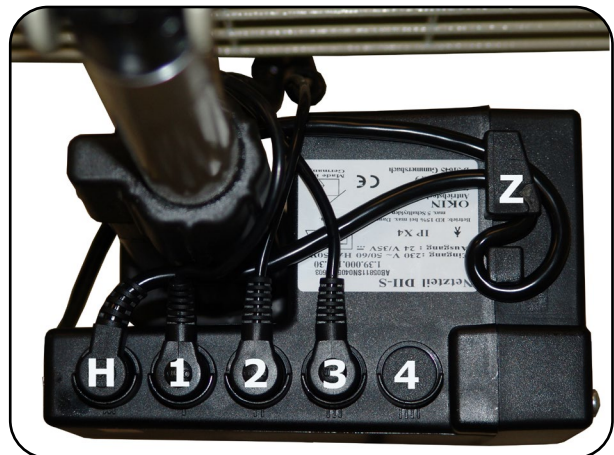

Fig. 6.2.03 – Controller
3. Connect the manual control unit (H) to the controller and secure its power supply line with the strain relief (Z) according to Fig. 6.2.03.
4. Plug in the drives as shown in Fig. 6.2.03.